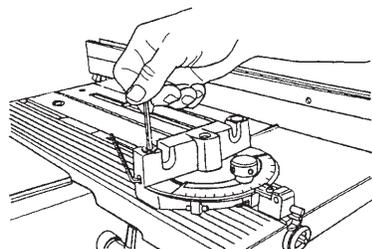

Figure B-94
73. Insert the long 5/32" Allen wrench through the miter gauge and secure it using the short 5/32" Allen wrench and a set screw borrowed from the tool rest, as seen in Figure B-94.